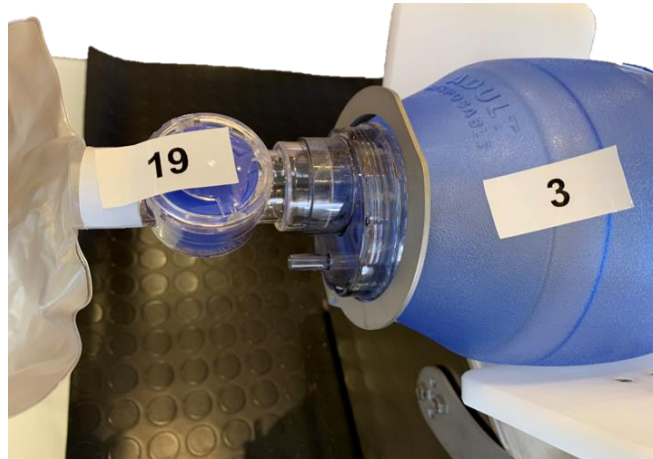

Figure 4.31. Connecting ABU balloon to ABU Reservoir sack.
- 25- After having completed either step 15 in section 4.4 “ABU v01: Configuration with No Continuous Fresh air Flow (NCFE)” or step 23 in section 4.5 “Configuration with Continuous Fresh air Flow (CFF), connect the ABU Reservoir Sack (19) to the back of the ABU balloon (3) as shown in Figure 4.31.